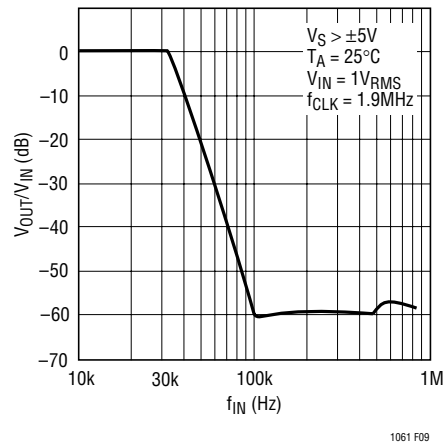

**Figure 7. Mode 1b: 2nd Order Filter Providing Notch, Bandpass, Lowpass**
**2. Secondary Modes: Mode 1b** – It is derived from Mode 1. In Mode 1b, Figure 7, two additional resistors, R5 and R6, are added to attenuate the amount of voltage fed back from the lowpass output into the input of the SA (SB) switched capacitor summer. This allows the filter clock-to-center frequency ratio to be adjusted beyond 50:1 (or 100:1). Mode 1b still maintains the speed advantages of Mode 1. Figure 8 shows the 3 lowpass sections of the LTC1061 in cascade resulting in a Chebyshev lowpass filter. The side A of the IC is connected in Mode 1b to provide the first resonant frequency below the cutoff frequency of the filter. The practical ripple, obtained by using a non-A version of the LTC1061 and 1% standard resistor values, was 0.15dB. For this 6th order lowpass,